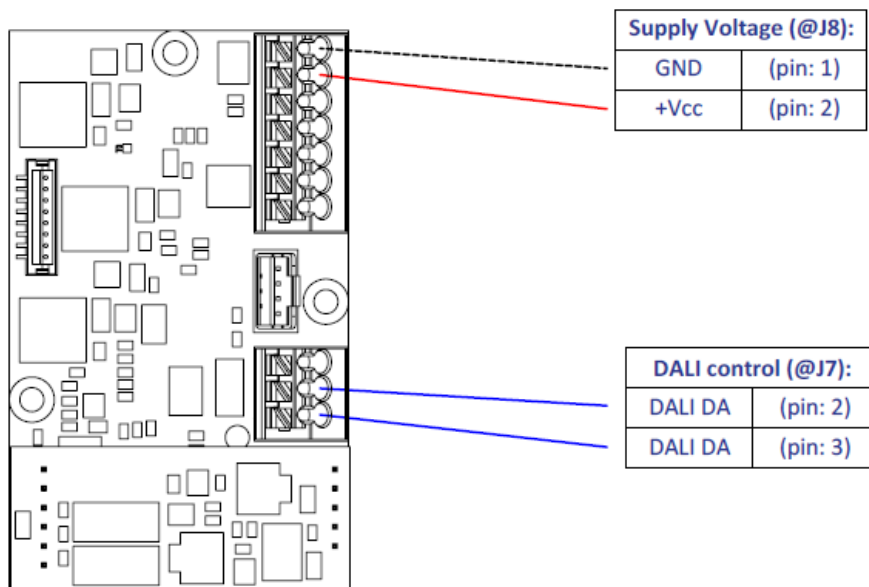

Figure 28: Wiring diagram for DALI control
To add DALI functionality to the motherboard first remove the power from the driver board and then place the DALI extension board on connector J6 & 9 (dual Header). See Figure 26. This will connect the DALI control input to pin 2 (DA) and pin 3 (DA) of connector J7 on the motherboard. See Figure 27 for view and Figure 28 for wiring.